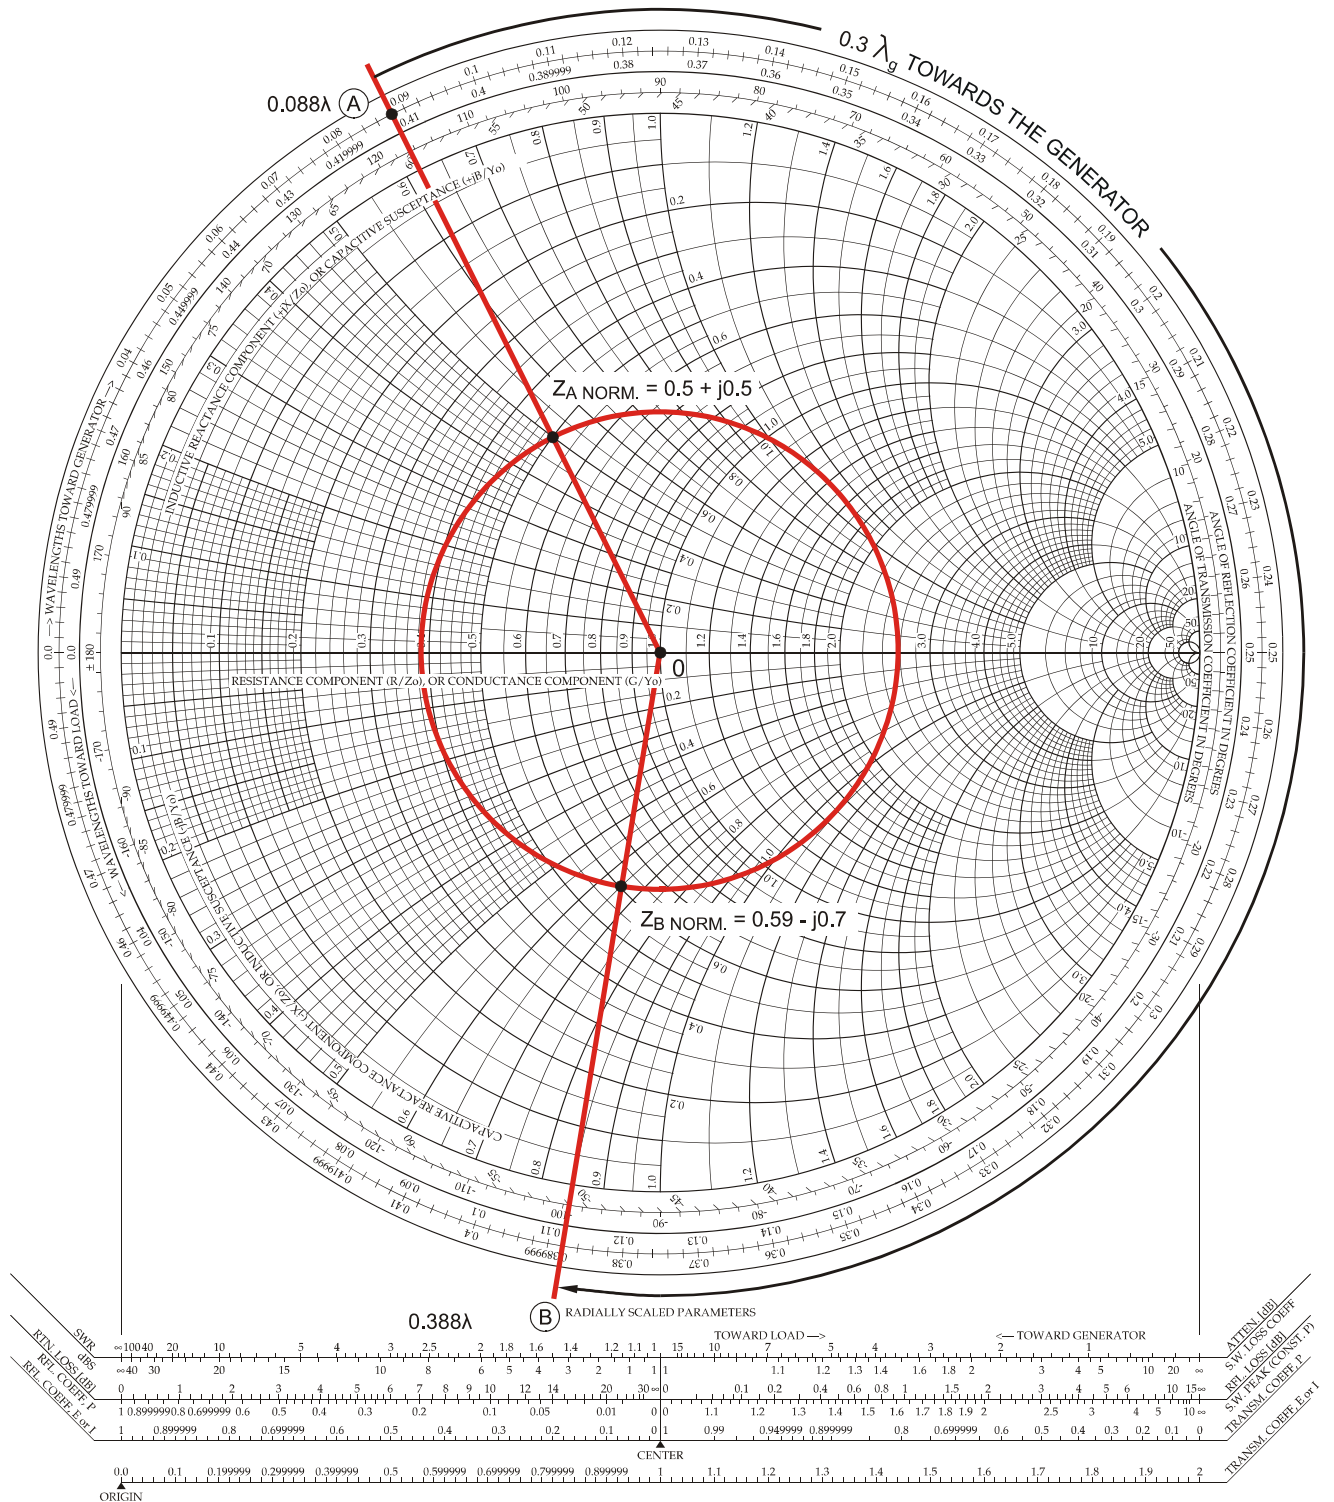

Figure 11-23. Using the Smith Chart to determine the impedance at a given point when the impedance at another point (reference point) is known.
1. On the Smith Chart of Figure 11-23, plot the impedance at reference point A:  $Z_{A \text{ NORM.}} = 0.5 + j0.5$ .